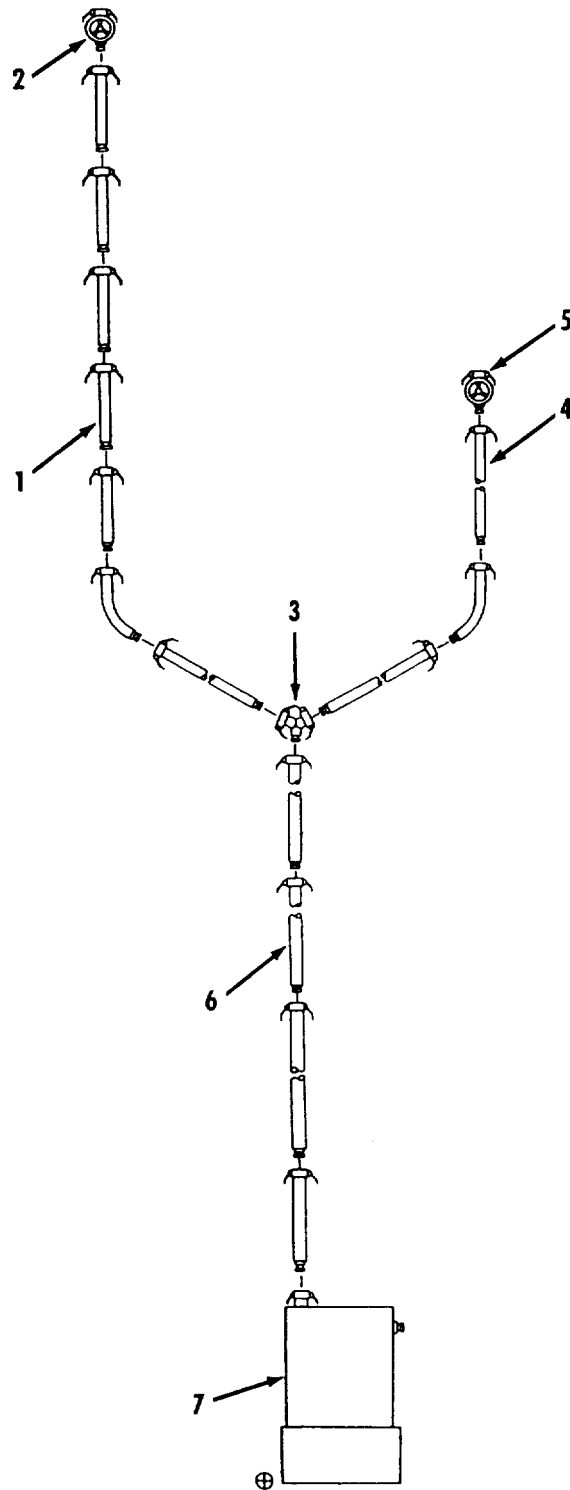

Figure 2-56. Fuel System - Primary 600 GPM Pump Input Removal.
- o. Fuel System - Primary 600 GPM Pump Input Removal. Refer to figure 2-56.